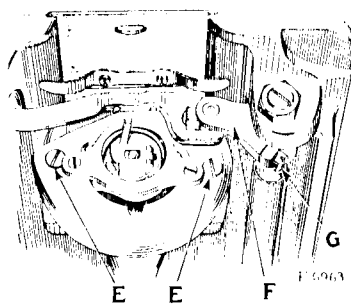

FIG. 18. ADJUSTMENT FOR RAISING AND LOWERING THE FEED DOG (MACHINES 31-17 AND 31-21)
Turn the balance wheel over toward you until the needle bar moves up to its highest point. Take out the two screws (E, Fig. 18) which hold the shuttle race in position and remove the shuttle race. Then remove the shuttle from the shuttle race.
When replacing the shuttle race, have the needle bar at its highest point and turn the shuttle in the race so that it correctly engages the shuttle driver, then securely fasten the shuttle race in position by means of the two screws (E, Fig. 18).
The feed lifting rock shaft crank (F, Fig. 18) should be set so that when it raises the feed bar to its highest point, slightly less than the full depth of the teeth project through the slots in the throat plate. To raise or lower the feed dog, loosen the clamping screw (G, Fig. 18) and move the feed lifting rock shaft crank (F) until the feed dog is set at the required height, then securely tighten the clamping screw (G).